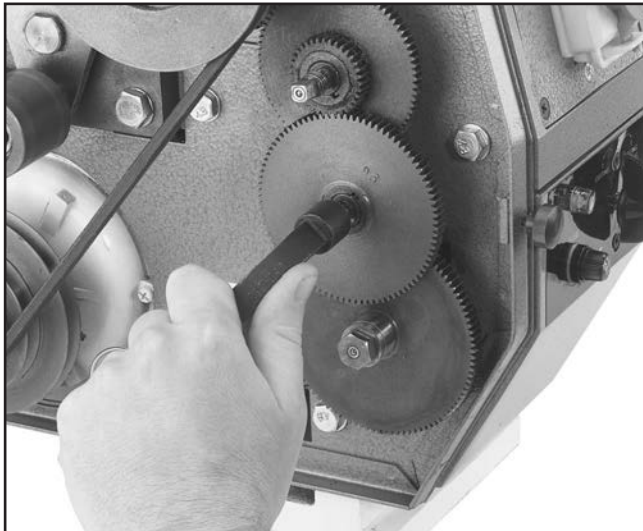

Figure 40. Using shaft wrench to loosen adjustable shafts.
5. Use the shaft wrench to loosen the upper and lower adjustable shafts, as shown in **Figure 40**. DO NOT loosen them too much or the clamp nut will fall out and you will have to remove the gear bracket to reconnect the adjustable shaft to the clamp nut.